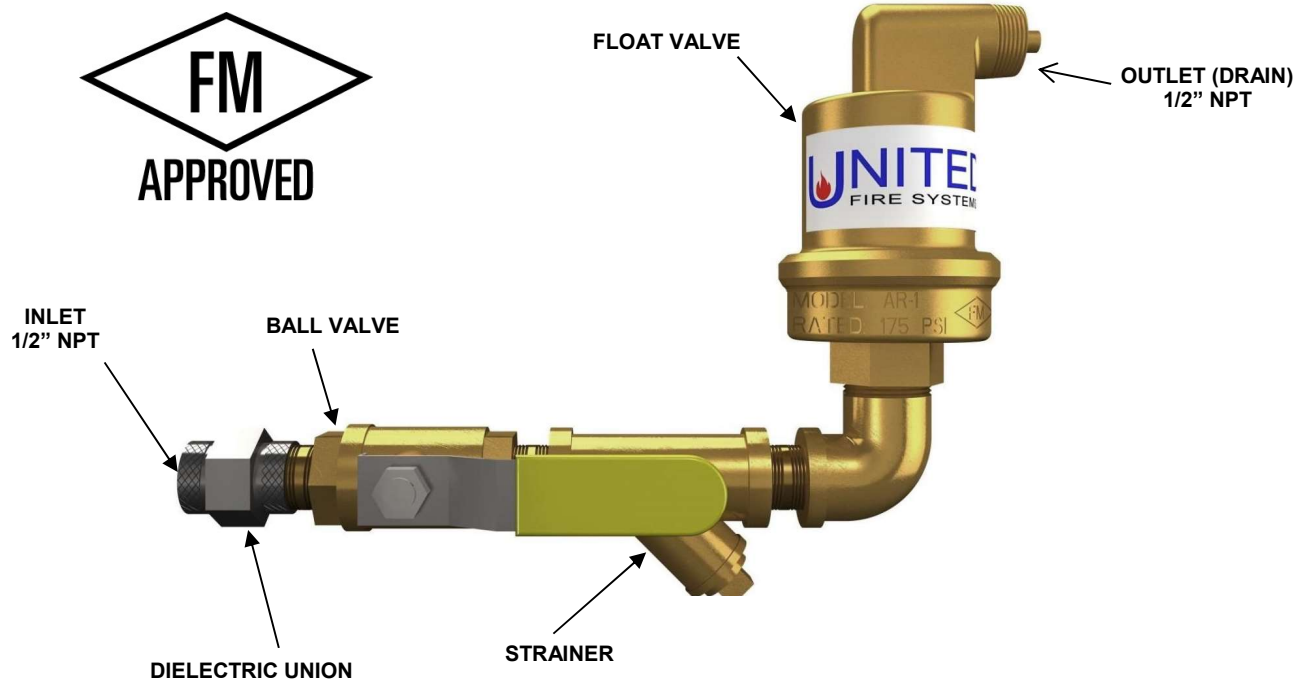
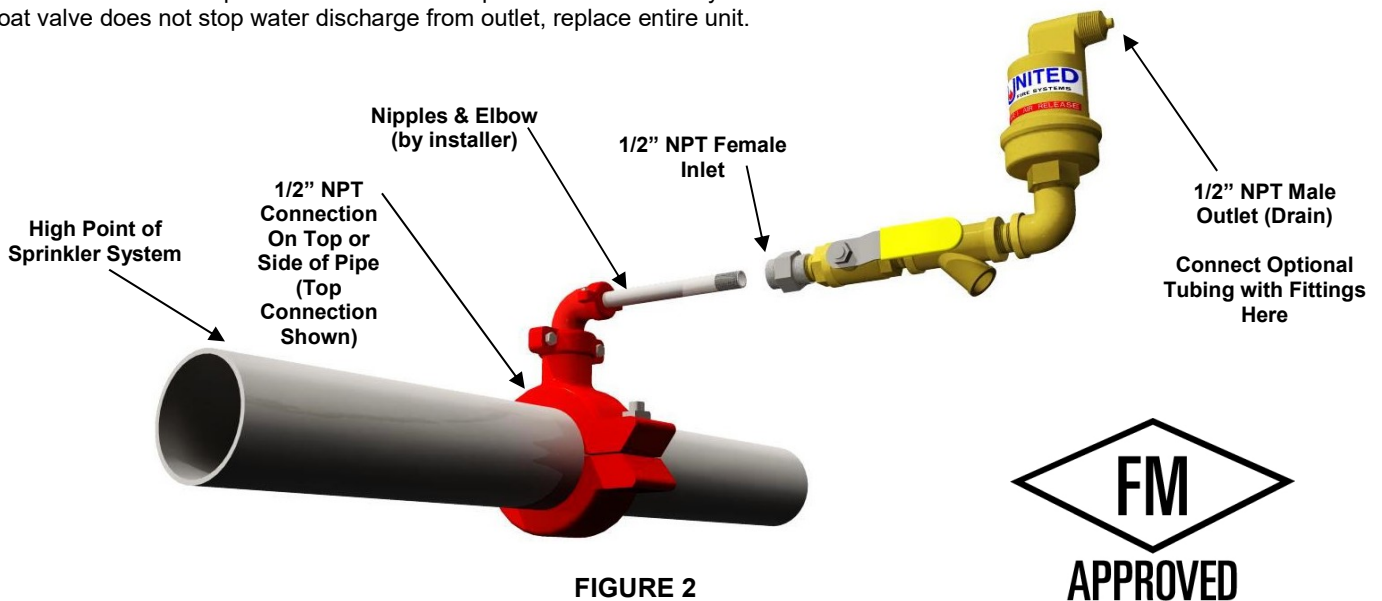

FIGURE 1
FIGURE 2
- Figure 2 shows a typical installation in a horizontal high point. The pipe must be level, or pitched back toward the fire sprinkler riser.
- Drill a hole in the pipe for the use of a mechanical tee, as shown in Figure 2, or use the proper fittings to provide a 1/2" NPT connection at the desired installation location.
- Use installer-supplied fittings and nipples as shown in Figure 2.
- Use the dielectric union (see Figure 1) to ensure the proper upright orientation per Figure 2. Failure to orient the AR-1 unit(s) as shown will result in malfunction. **DO NOT disassemble the AR-1 at any time!**
- Ensure AR-1 ball valve (see Figure 1) is CLOSED.
- When all air has been released, the float valve (see Figure 1) will close, preventing large amounts of water from discharging from the outlet.
- With ball valve CLOSED, remove and clean the strainer (see Figure 1) screen with clean water and a wire brush.